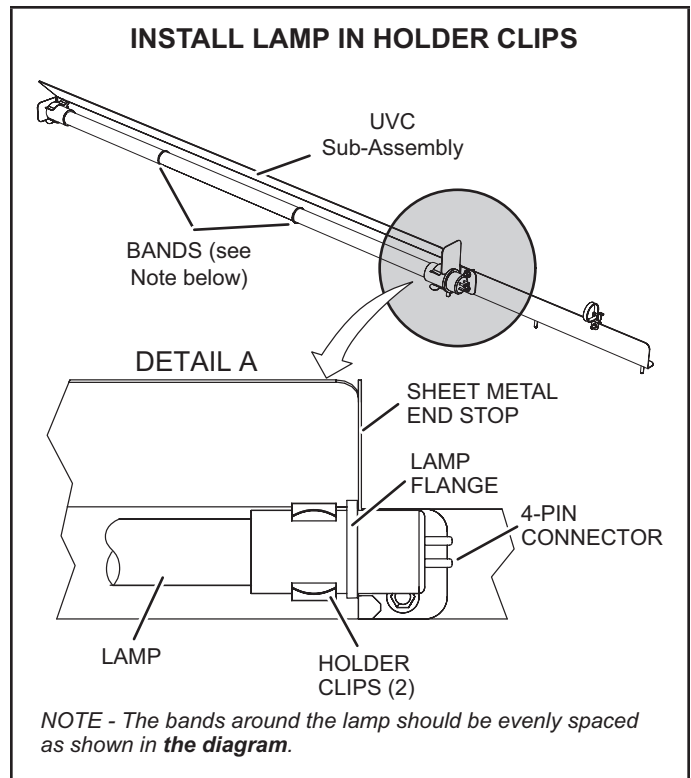

FIGURE 47
- 5 - Remove the (2) mounting screws of the UVC assembly. Carefully slide the complete UVC assembly out through the blower access door.
- 7 - Wear cotton gloves or use a cotton cloth when handling the new lamp. Place the new lamp in the holder clips of the UVC assembly. Verify that the lamp flange at the connector end is sandwiched between the lamp holder clip and the sheet-metal end stop (see FIGURE 47).